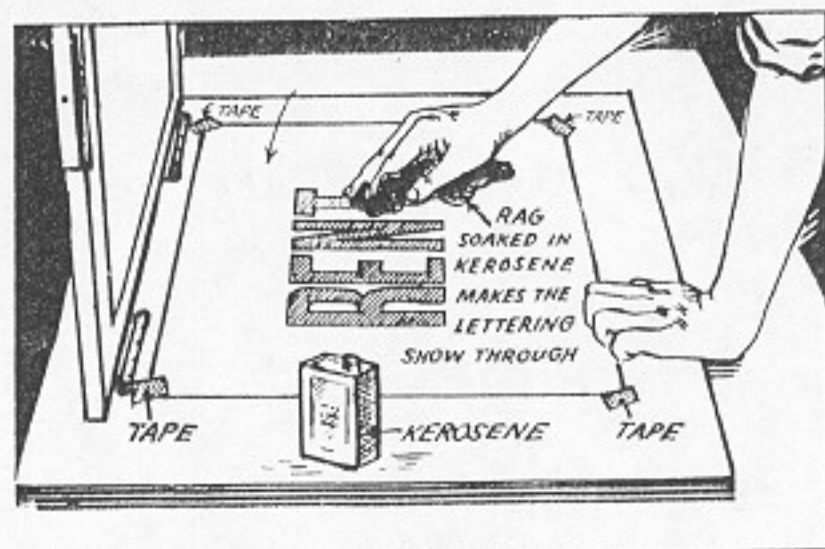

Fig. 74. Kerosene-Moistened Paper Is Translucent
2. Cover the original with bond or kraft paper and tape it at the corners to hold it securely in place, Fig. 74. Wipe the surface of the paper with a cloth soaked in kerosene. This makes the paper translucent, so you can see the original through the paper.